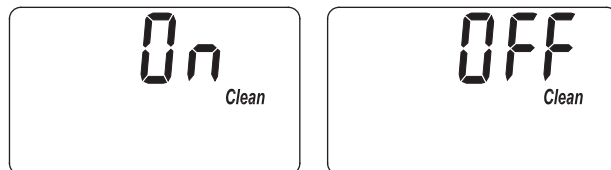

FIG. 27
1. Press and hold the PROGRAM button until the screen in Figure 26 is displayed. Once in this display, press the PROGRAM button twice and one of the two displays in Figure 27 is shown.